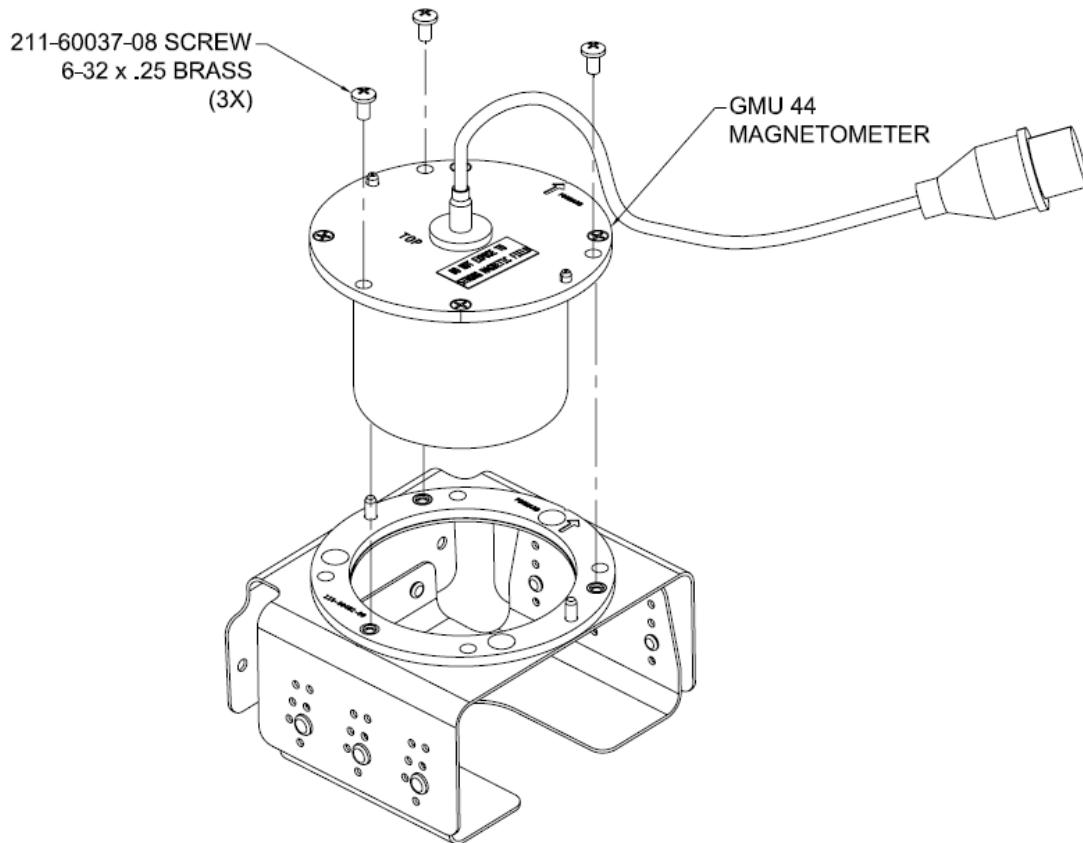

Figure A-13 Secure GMU 22 to the Mounting Bracket Assembly
- Attach the GMU 22 to the GMU 22 Mounting Bracket as illustrated in Figure A-13 using brass screws.